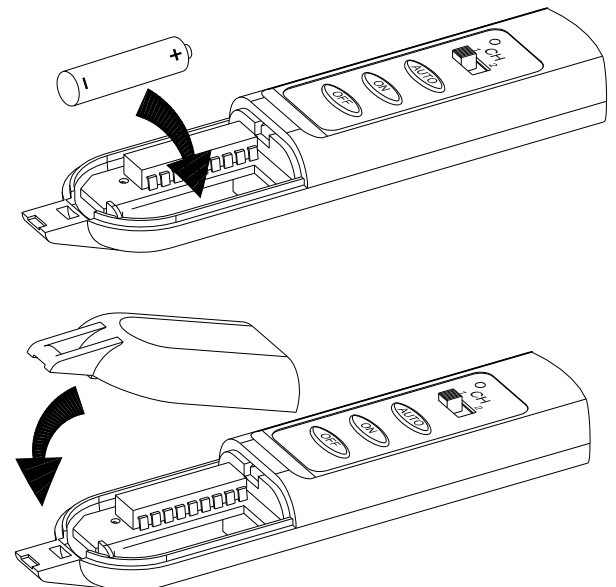

FIGURE 12
- (2) Insert a 12V Alkaline battery to the battery compartment and refit the battery cover. (FIGURE 12)